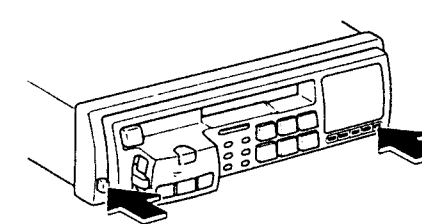

Fig. 2
1. Press the PWR button 10 to turn the power Off. (Fig. 2)
2. Press the Release button. (Fig. 2)
- (1) Remove four screws marked "●" as shown in Figure 2.
- (2) Disconnect one Connector from the Cassette Deck.
<Figure 2>
- (1) Remove seven screws marked "■" as shown in Figure 2, 3.
- (2) Disconnect two connectors from the Main P.C.Board.